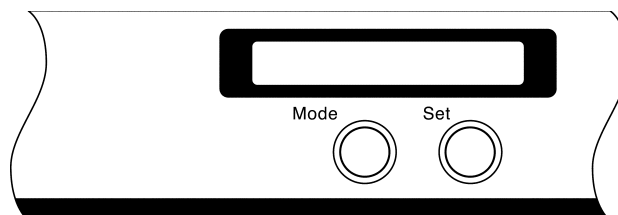

Fig. 1.2 Control Panel
| (3) Key layout | See Fig. 1.2 |